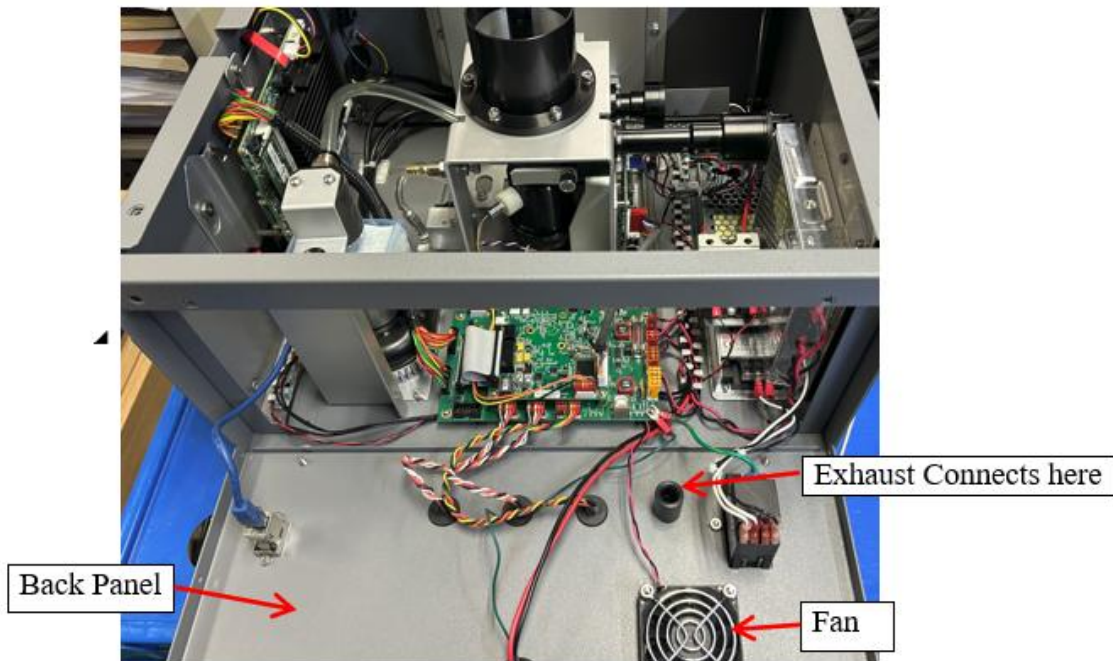

Figure 6-40 Opened Back Panel For Fan Replacement
4. Remove back panel (4x screws), lay down as shown in figure 6-40.